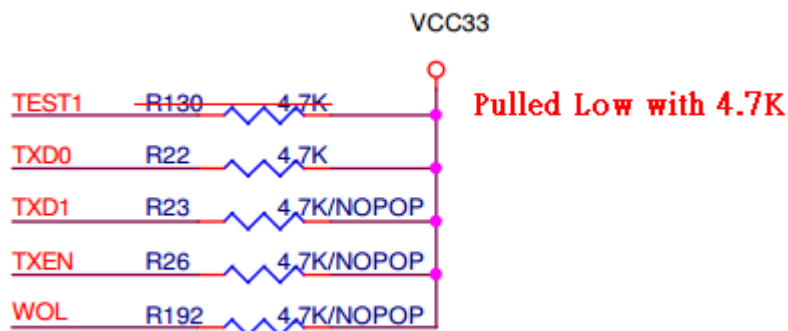

Figure 2
a. Remove R130 and Pull low TEST1 (pin42) with 4.7K as Figure2